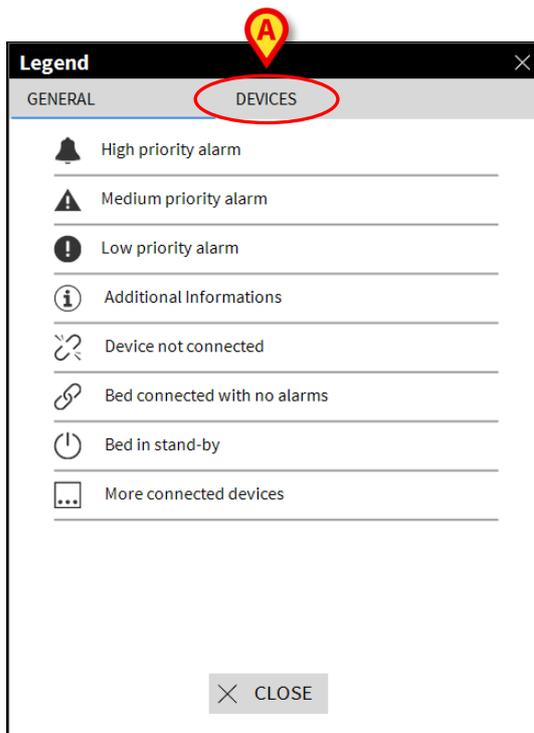

Fig 62
The following window is displayed (Fig 62).
The window lists the “General” icons that can appear in different contexts. Another list of icons, those indicating the connected devices, can be displayed by clicking the “DEVICES” button indicated in Fig 62 **A**.
- Click the **Devices** button indicated in Fig 62 **A**